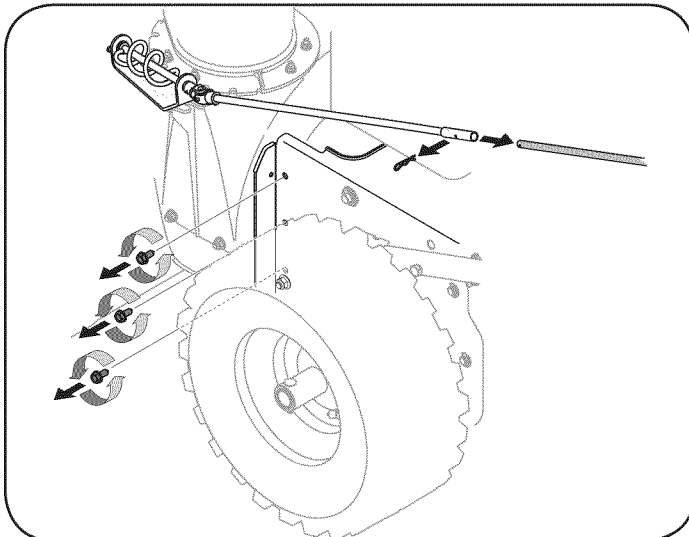

Figure 26
1. Remove the cotter pin which secures the upper chute crank to the lower chute crank. Refer to Figure 26.
4. From both sides of the the frame assembly, use a 1/2" wrench to remove the three hex tap screws securing the frame to the auger housing assembly. Refer back to Figure 26.